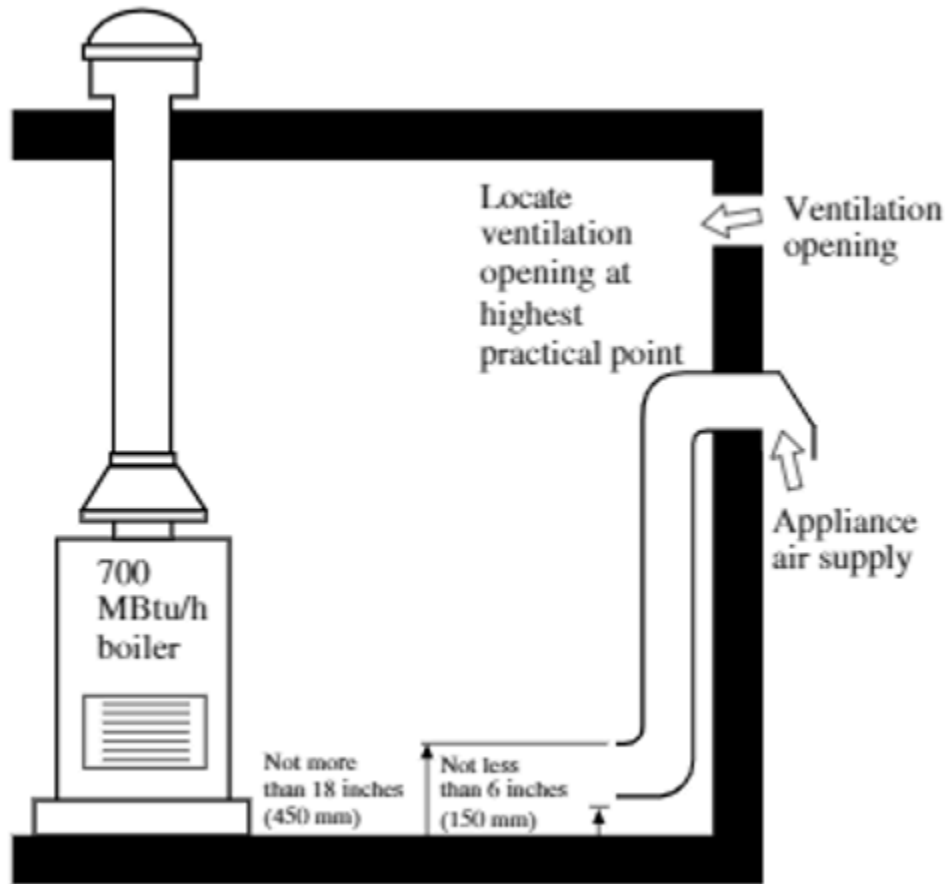

Figure 7. Air supply duct location
The air supply shall be located not less than 6 in. (150 mm) or more than 18 in. (450 mm) above the mechanical room floor (Figure 7).
- Figure 7. “Air supply duct location” by Camosun College is licensed under a CC BY-NC-SA licence.